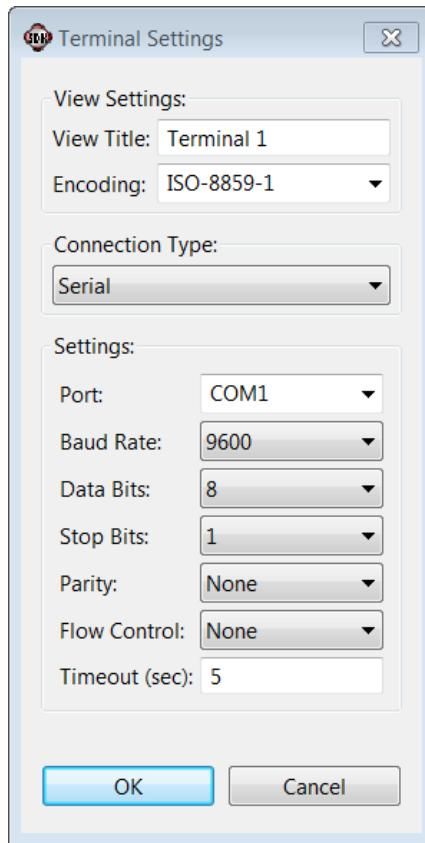

Figure 141: Terminal Settings Dialog Box
3. Specify the parameters as shown in the Terminal Settings dialog box, (Figure 141), and click **OK**.